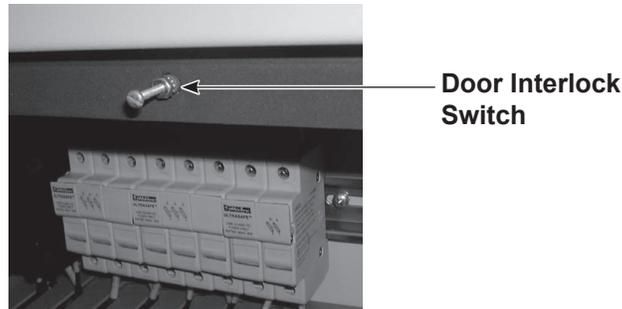

Figure 4 Base Enclosure Interlock Switch Override
2. See Figure 4. Override the enclosure door interlock switch by pulling the switch actuator all the way out and restore power to the dryer.